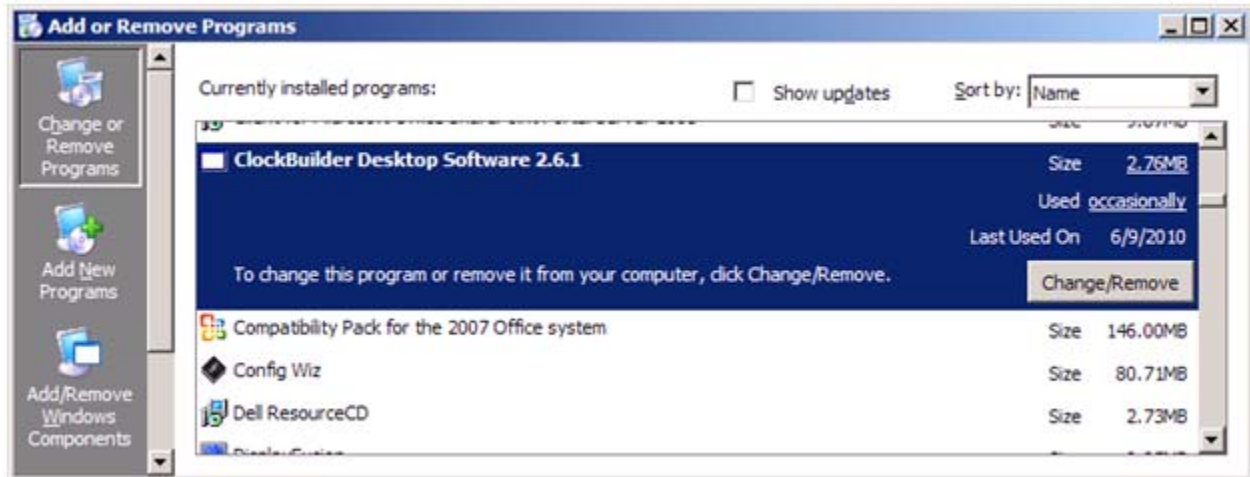

Figure 3. Uninstall in Add and Remove Programs
Close all the programs and help files before running the uninstaller to ensure complete removal of the software. The driver software must be uninstalled separately. See “3.6. USBXpress Driver Installation” for details. To uninstall the software, use the Add and Remove Programs utility in the Control Panel, as shown in Figure 3.
- Updated Figure 3 on page 5.